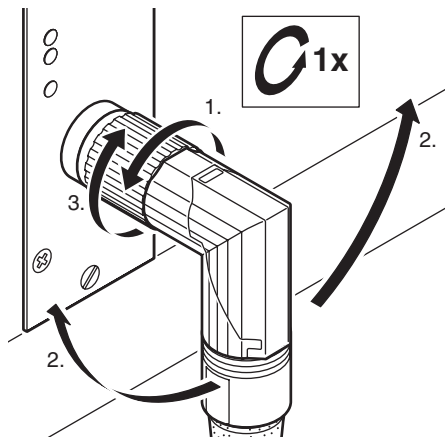

Abb. 17: Settings the cable outlet
5. Adjust the cable outlet on the angle plug, e.g. in order to adapt it to your use. Proceed according to fig. 17 on page 150.
- Fig. 17, „1.“: Loosen the connecting cable plug from the the Rexroth tightening system (1 turn).
- Fig. 17, „2.“: Change the angle of turn.
- Fig. 17, „3.“: Screw together the connecting cable plug and the Rexroth tightening system.